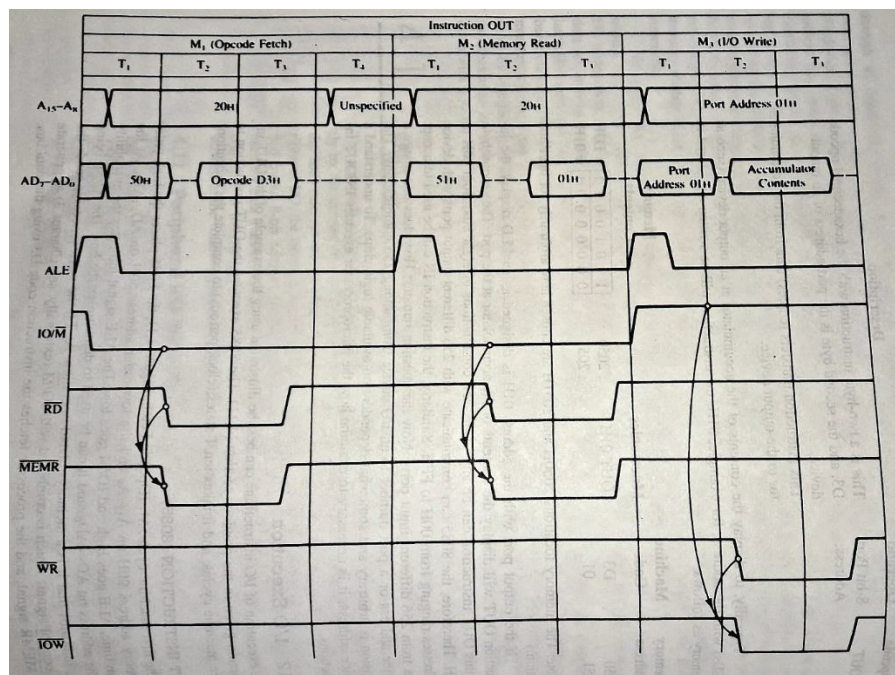

Figure 4.1 : 8085 Timing for Execution of OUT Instruction
In the first machine cycle, M_1 (Opcode Fetch, Figure 4.1) the 8085 places the high-order memory address 20H on $A_{15}-A_8$ and the low-order address 50H on $AD-AD_0$. At the same time, ALE goes high and $IO/\overline{M}$ goes low. The ALE signal indicates the availability of the address on AD_7-AD_0 , and it can be used to demultiplex the bus. The $IO/\overline{M}$, being low, indicates that it is a memory-related operation. At T_2 , the microprocessor sends the $\overline{RD}$ control signal, which is combined with $IO/\overline{M}$ (externally, to generate the $\overline{MEMR}$) signal, and the processor fetches the instruction code D3 using the data bus.
Figure 4.1 shows the execution timing of the OUT instruction. The information necessary for interfacing an output device is available during T_2 and T_3 of the M_3 cycle. The data byte to be displayed is on data bus, 8- bit device address is available on the low- order as well as high-order address bus, and availability of the data byte is indicated by the $\overline{WR}$ control signal. The availability of the device address on both segments of the address bus is redundant information; in peripherals I/O, only one segment of the address bus (low or high) is sufficient for interfacing. The data byte remains on the data bus only for two T- states, then the processor goes on to execute the next instruction. Therefore, the data byte must be latched now, before it is lost, using the device address and control signal
The objective of interfacing an output device is to get information or a result out of the processor and store it or display it. The OUT instruction serves that purpose; during the M₃ cycle of the OUT instruction the processor places that information (accumulator contents) on the data bus. If we connect the data bus to a latch, we can catch that information and display it via LEDs or a printer. Now the questions are : (1) When should we enable the latch to catch that information ? and (2) What should be the address of that latch ? The answers to both questions can be found in the M₃ cycle (Figure 4.1). The latch should be enabled when IO/M is high and $\overline{WR}$ is active low. Similarly, the address of an output port is also on the address bus during M₃ (it is 01H in figure 4.1). Now the task is to generate one pulse by decoding the address bus (A₇ - A₀ or A₁₅ - A₈) to indicate the presence of the port address we are interested in, generate a timing pulse by combining IO/M and $\overline{WR}$ signals to indicate that the data byte we are looking for is on the data bus, and use these pulses (by combining them) to enable the latch. These steps are summarized as follows. (For all subsequent discussion, the bus A₇- A₀ is assumed to be that demultiplexed bus AD₇ - AD₀).